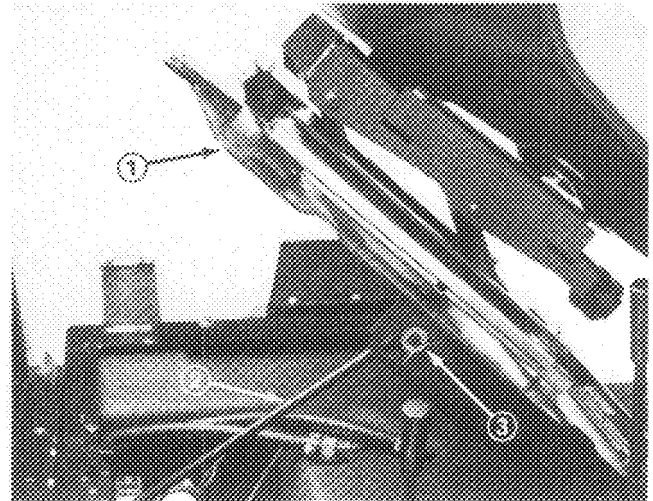

Figure 4
4. Hold mounting plate in upright position with support rod (Fig. 4).
3. Hold mounting plate in upright position with support rod (Fig. 4).
1. Remove (2) 1/2-13 x 1-1/4" lg. capscrews, 1/2" flatwashers, 1/2" lockwashers and 1/2-13 nuts secured to mounting brackets on each side of machine and 1/2-13 x 1-1/4" lg. and 1/2-13 x 3-1/2" lg. capscrew, 1/2" flatwasher and 1/2" lockwasher secured to each leg of ROPS frame.
3. Secure each side of roll bar to mounting brackets with capscrews, flatwashers and lockwashers previously removed (Fig. 4). Torque fasteners to 50-60 ft-lbs.